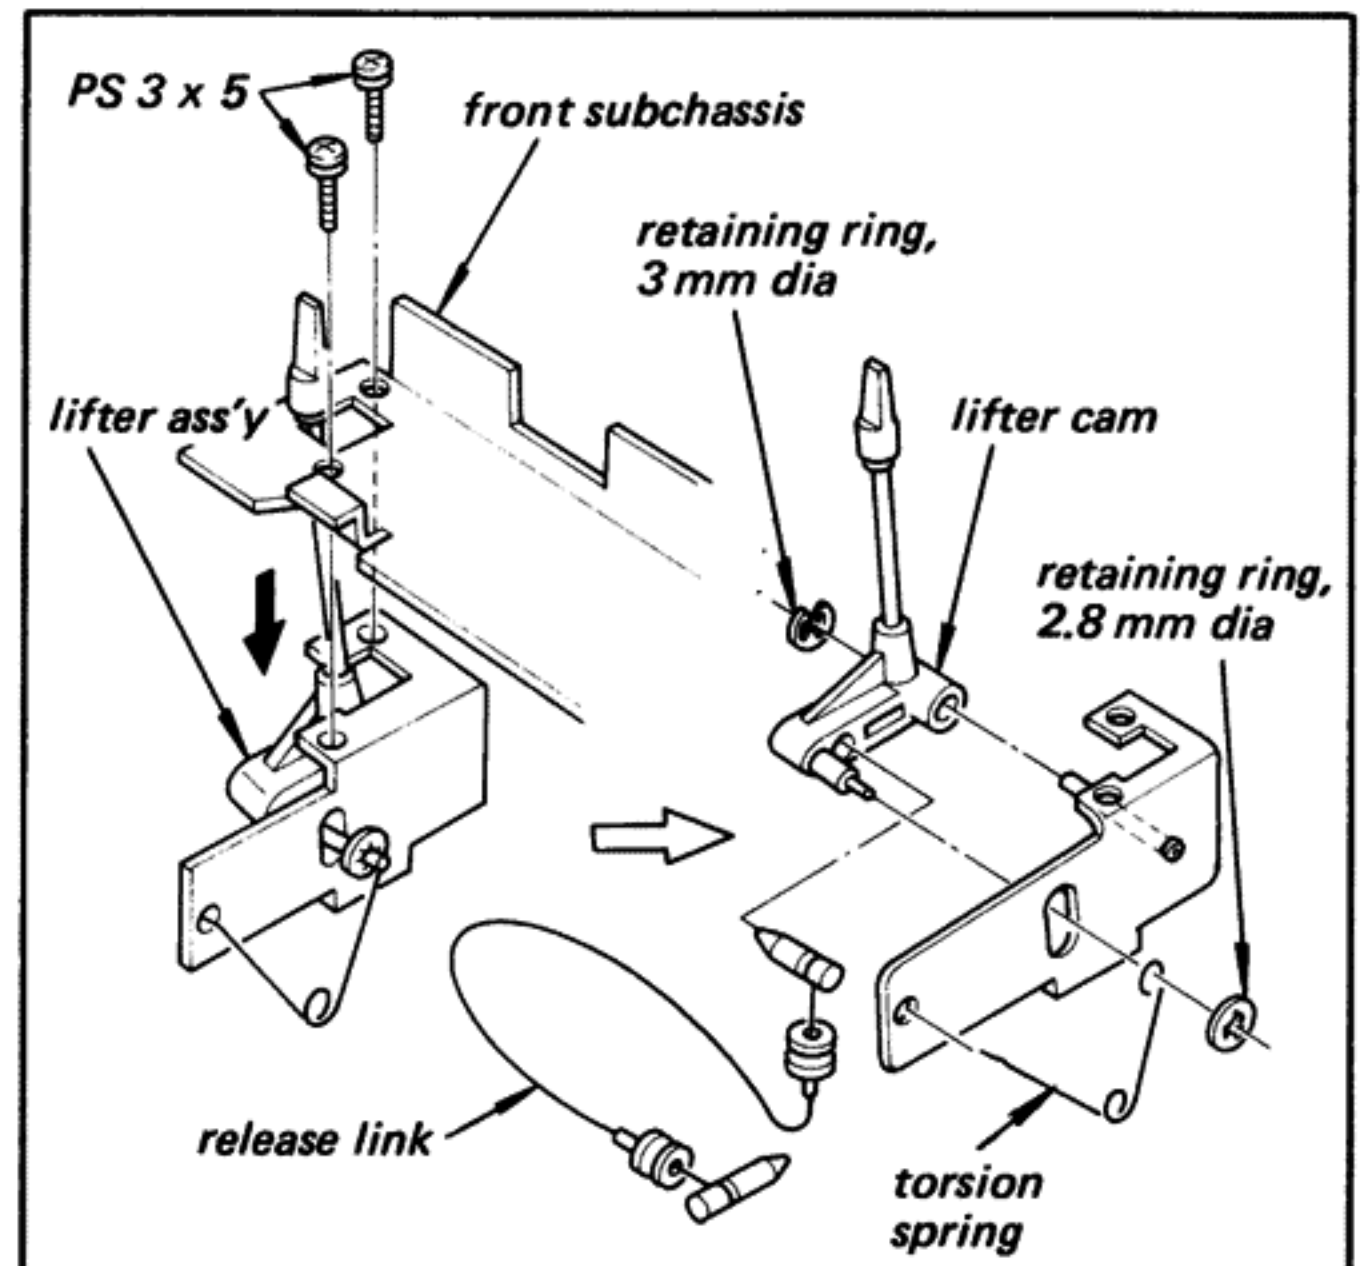

Fig. 2-13. Lifter ass'y/release link removal
- Remove the lifter ass'y downwards by removing the two screws (PS 3 x 5) as shown in Fig. 2-13.
- Remove the retaining ring (2.8 mm dia) and the torsion spring shown in Fig. 2-13.
- Remove the lifter cam by removing the retaining ring (3 mm dia) shown in Fig. 2-13.
- Pull out the release link from the lifter cam as shown in Fig. 2-13. This frees the release link.